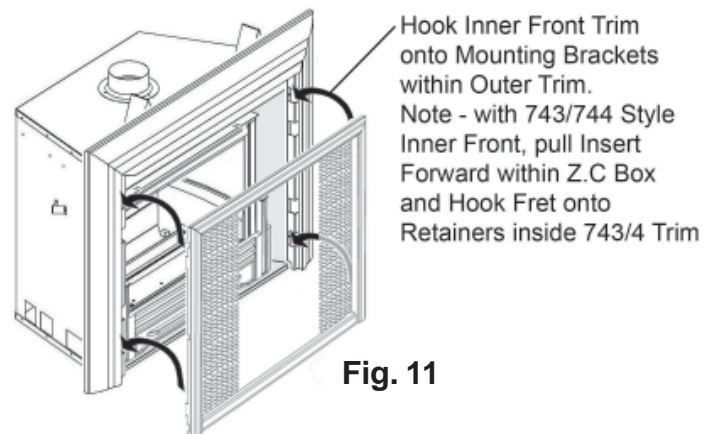

Fig. 11
4. Hook the inner front trim to the mounting brackets on the zero clearance box. **See Fig. 11.** It may be desirable for visual reasons to adjust the front to back position of the insert depending on which inner front trim is used and where the cast iron fret positions.